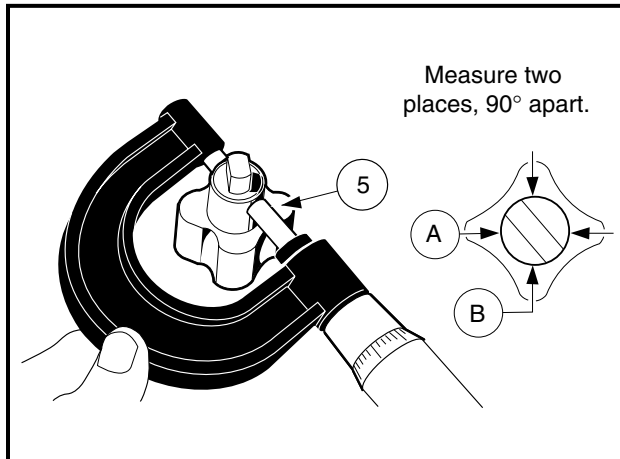

Figure 3-60 Measure Pump Shaft Bearing Surface
- 4.1. Measure the pump shaft bearing surface. Replace both rotors as a set if the measurement is less than 0.4971 inch (12.627 mm) (**Figure 3-60, Page 3-30**).